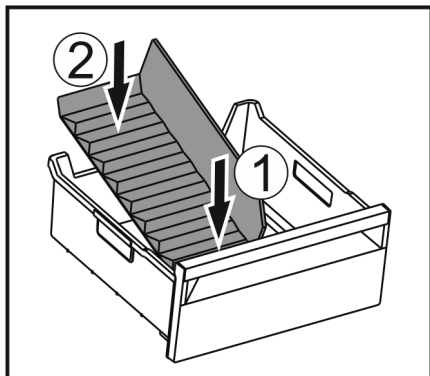

Fig. 152
- Insert the front part of the ice compartment divider. Fig. 152 (1)
- Lower the rear part of the ice compartment divider to the drawer bottom. Fig. 152 (2)